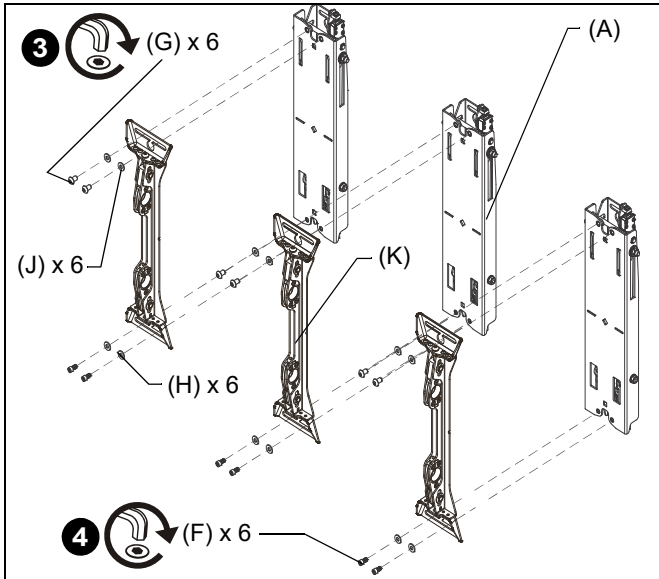

Figure 10
3. Attach top of one Fusion wall plate [(K) and two wall plates removed from XTM1U/XSM1U] to each Fusion pullout (A) using two 5/16 x 1/2" button head cap screws (G) and two 5/16" washers (J) in each top mounting slot. (See Figure 10)
4. Attach bottom of Fusion wall plates to bottom of Fusion pullout using two 1/4-20 x 1/2" socket head cap screws (F) and two 1/4" washers (H) in each bottom mount slot. (See Figure 10)